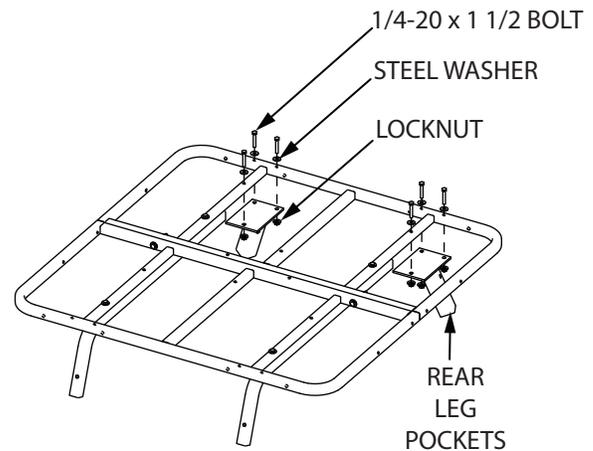

FIGURE 3
3. Attach the two rear leg pockets w/ plates (TP151 & TP152) to the bottom of assembled platform using (6) provided 1/4-20 x 1-1/2" bolts, locknuts and steel washers. **SEE FIGURE 3**
SEE FIGURE 3